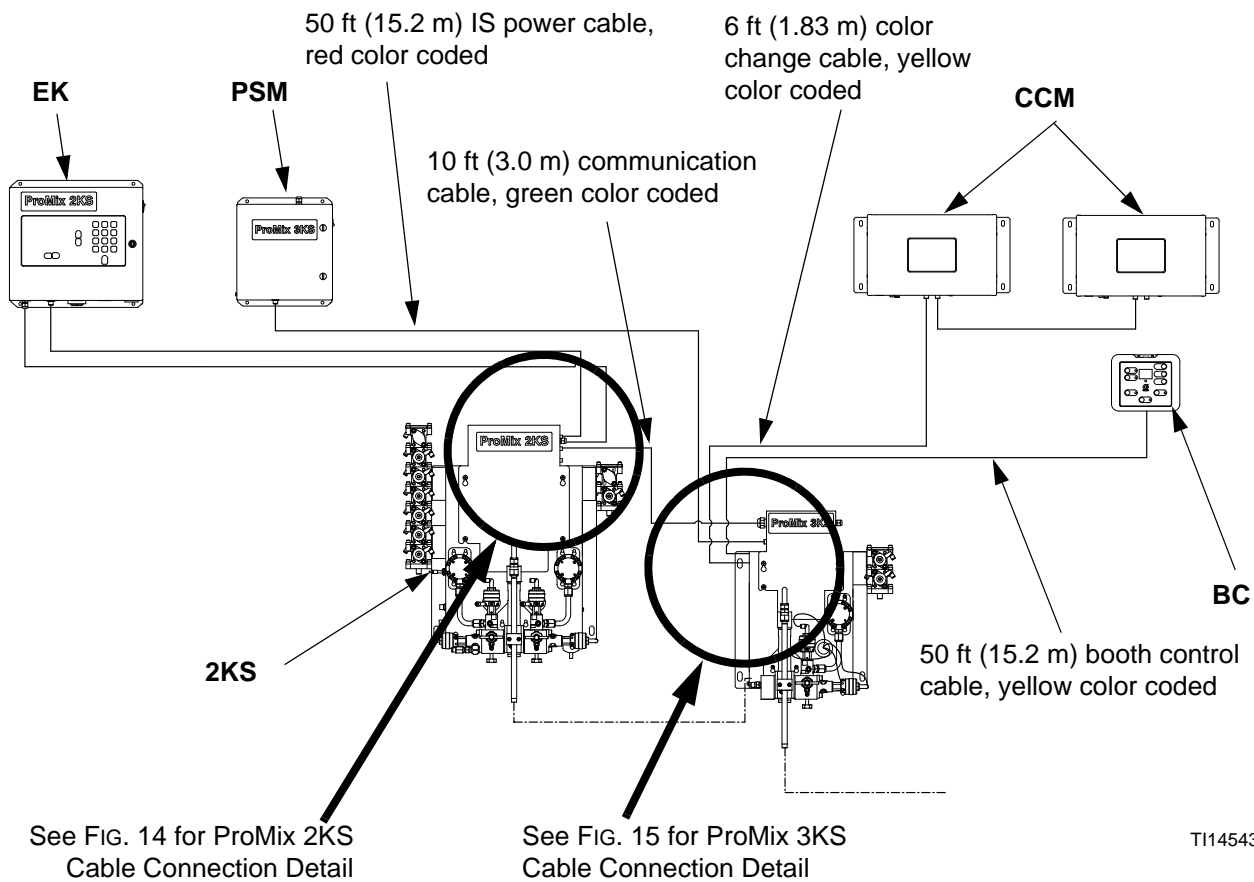

FIG. 13. ProMix 3KS Cabling Diagram
2. Connect the other cable end to the ProMix 3KS Fluid Station Control connector $\overset{\text{VDC}}{\pm}| | \text{—}$ (J3). See FIG. 13 and FIG. 15.
Connect the 50 ft (15.2 m) Booth Control Cable (Part No. 123280, yellow color coded) from the Booth Control to the ProMix 3KS Fluid Station connector  (J1). See FIG. 13 and FIG. 15.
Connect the 6 ft (1.83 m) Color Change Cable (Part No. 123277, yellow color coded) from the Color Change Module to the ProMix 3KS Fluid Station connector  (J2). See FIG. 13 and FIG. 15.
CAN (J8). See FIG. 13, FIG. 14, and FIG. 15.